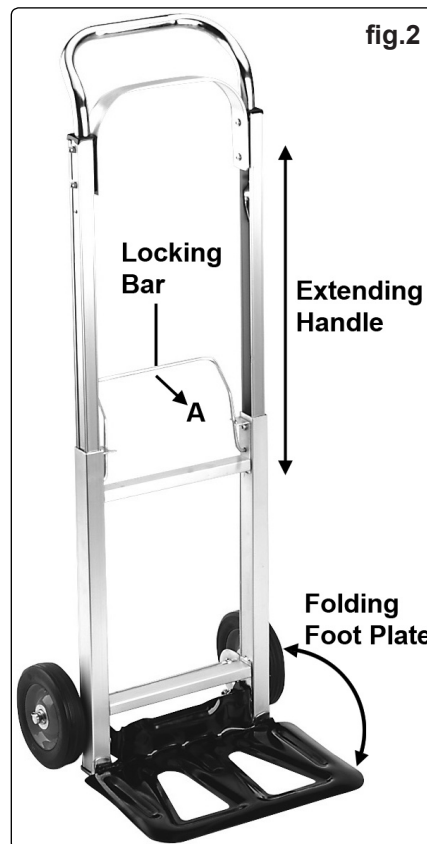

fig.2
- 4.1 Firstly fold down the foot plate ready to accept a load (fig.2).